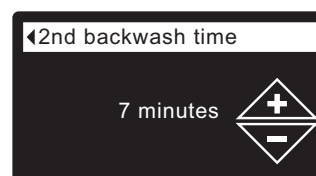

FIG. 78
- 8c. **Second backwash time:** Press the UP (▲) or DOWN (▼) buttons to change the second backwash time. Hold the button down to rapidly advance. The time can be set from 0 to 30 minutes (See Figure 78).